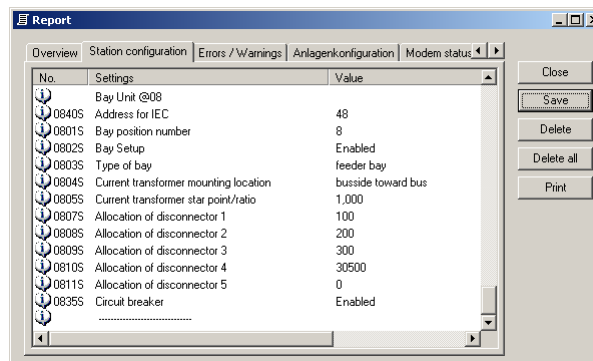

Figure 4-37 Evaluation protocol (report) when exiting the configuration – Example
- Subsequently click **OK**. The evaluation protocol (report) (Figure 4-37, page 111) opens when you exit the Plant Configuration.